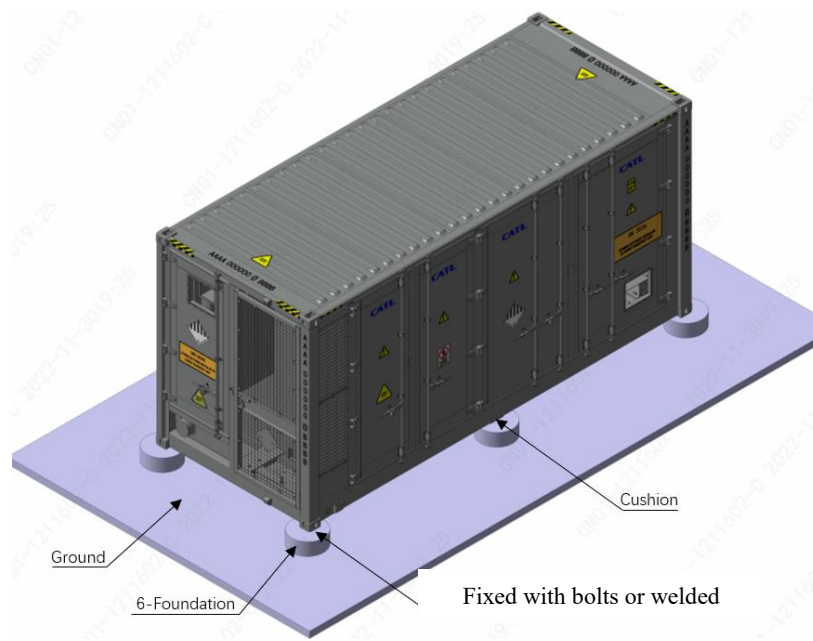

Figure 5-2 Installation site overview
- At least six foundation points must be in place to support the container as shown in Figure 5-2.